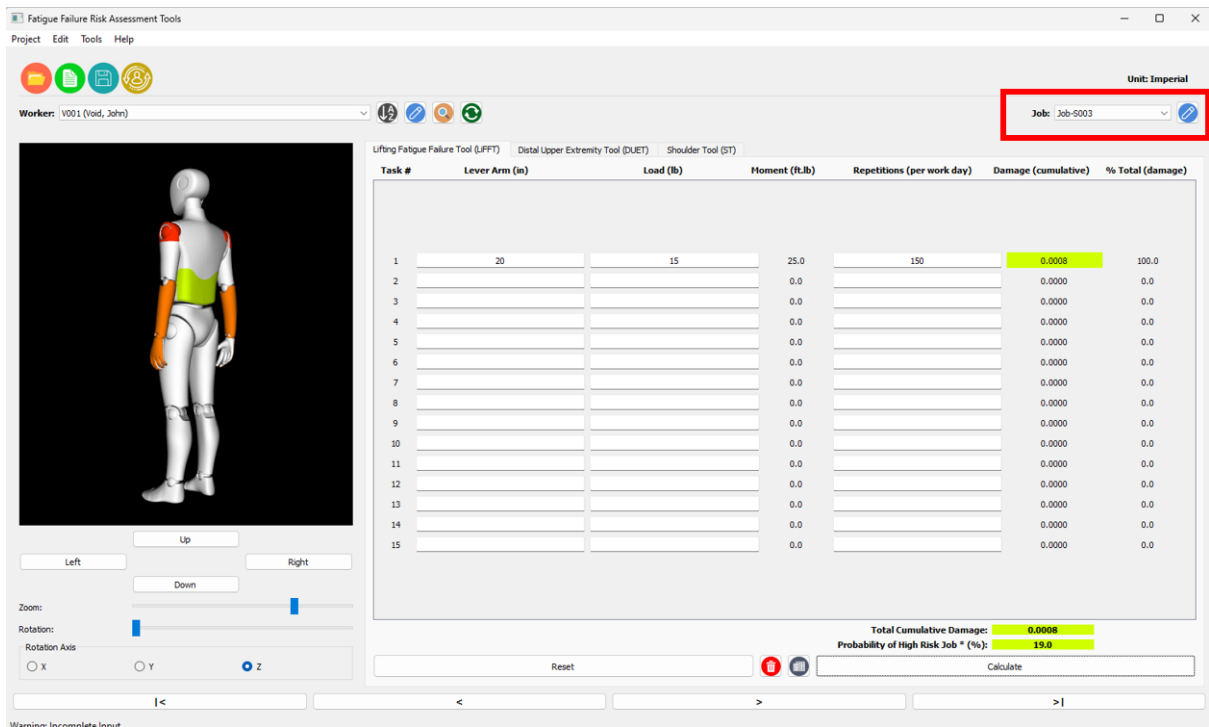

Figure 1. Main ErgoTools interface with job-saving features highlighted (top right corner).
- Jobs are saved via the **top right corner** (see **Figure 1**). Users must enter a **Job ID** and may add a **name** and **description**.